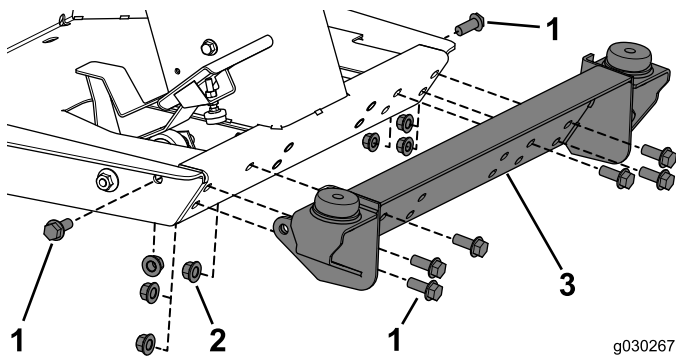

Figure 14
1. Secure the front mount to the machine 8 bolts (1/2 x 1-1/4 inches) and 8 locknuts (Figure 14).